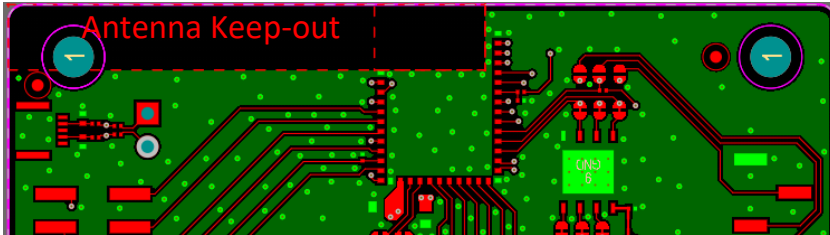

Figure 6: PCB trace Antenna keep-out area (shown in red), corner of the BL54L15 development board for the 453-00001 module.
- The BL54L15 development board (453-00001-K1) has the 453-00001 module on the edge of the board (not in the corner). The antenna keep-out area is defined by the BL54L15 development board which was used for module development and antenna performance evaluation is shown in **Figure 6**, where the antenna keep-out area is ~5mm wide, ~28.6mm long; with PCB dielectric (no copper) height ~1.57mm sitting under the 453-00001 PCB trace antenna module.
**Figure 6** shows an example.